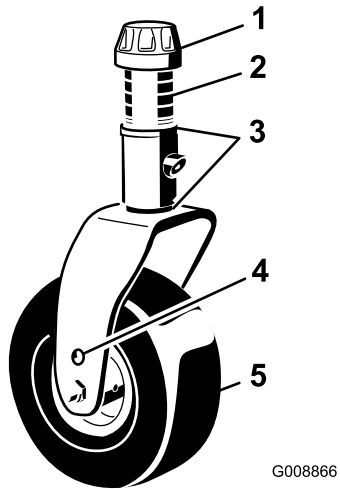

Figure 34
3. Adjust the shims (3 mm or 1/8 inch) on the front caster fork(s) to match the height-of-cut decal (Figure 34); refer to Measuring the Mower-Deck Pitch (page 65).